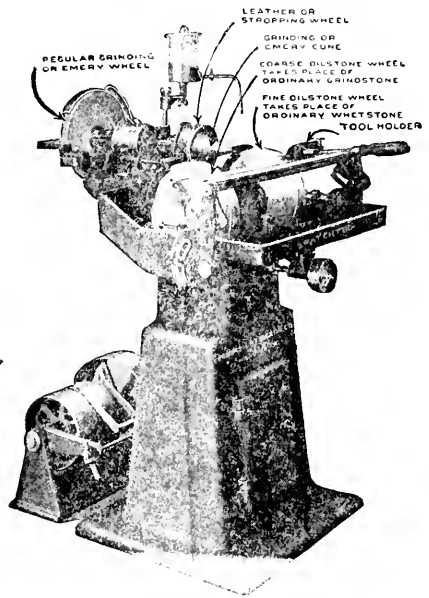

Fig. 53 - COMBINATION GRINDER.
**55. General**--Until within the last few years, most of the grinding in wood working shops was done on grindstones, where a sandstone wheel was used as the cutting agent. This was a much slower process than the present oilstone grinder. It is still insisted by some that the grindstone gives better results. However, it is a fact that all progressive shops and factories are adopting the oil stone grinders for sharpening edge tools. The grinder in Fig. 53 is one of the several efficient types of this kind of machine now on the market.
**56. Drive and Speed.**-- The machine may be driven from a line shaft as provided for in Fig. 53, but is usually equipped with an individual motor, one horse power being all that is required for this machine. The upper arbor should run at a speed of 1650 r. p. m., the oilstone wheels at 230 r. p. m.
**58. Tool Rest--** The tool rest table has a groove running parallel to the face of the stone. The tool holder with the tool is shown in Fig. 53, and operates back and forth in this groove.